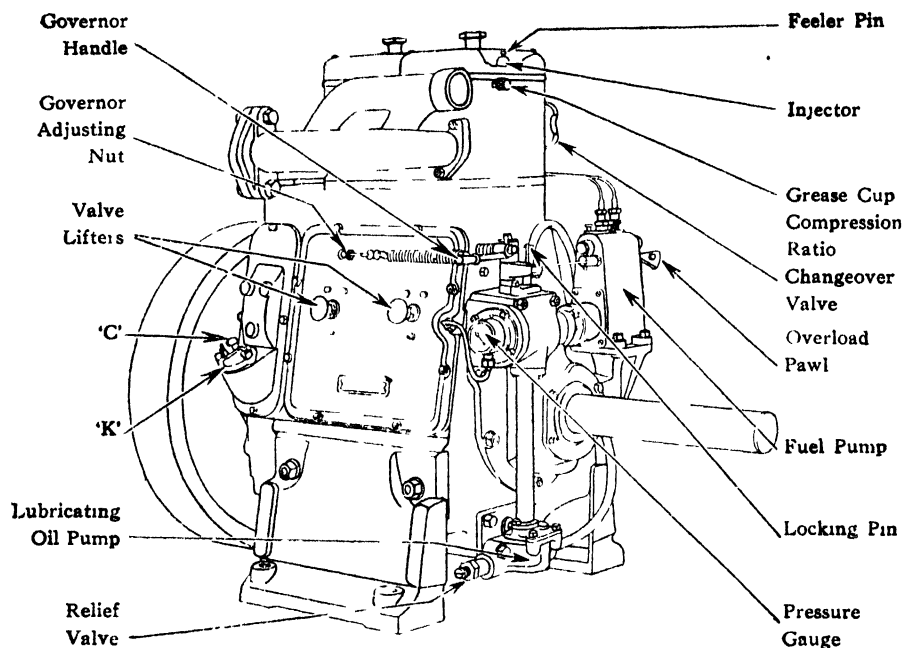

Fig 26 --A TYPICAL SOLID INJECTION DIESEL ENGINE
The following notes on starting up and stopping a solid injection diesel engine apply to a typical hand-controlled engine of this type. The engine, as illustrated in Fig. 26, is fitted with a compression change-over valve, which ensures a very high compression for starting, thus giving greater heat of compression for the ignition of the fuel.
(1) Open the oil filler *K* (Fig. 26) and pour in lubricating oil of the correct quality, until the level in the sump reaches the mark on the dipstick *C*. Close the oil filler after filling.